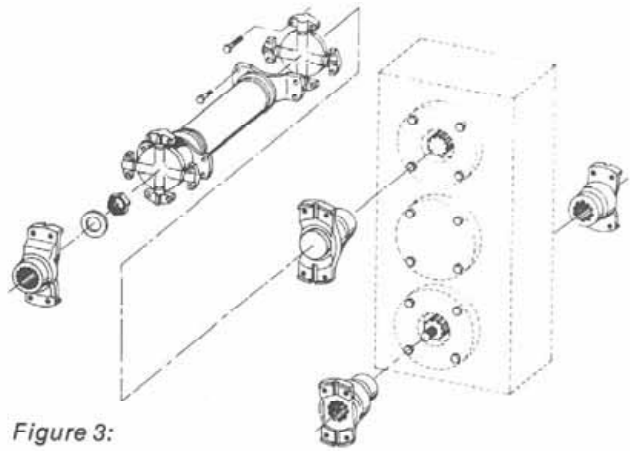

Figure 3:
5. At this time the upper driveline can be removed (Fig. 3). Uncouple the u-joints from the transmission and transfer case yokes, then slide the transfer case yoke completely rearward (this yoke also functions as a slip joint). Lift the driveline assembly from access opening.